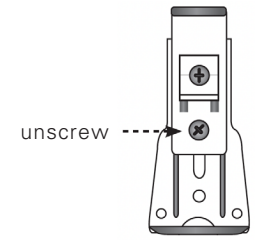

Figure 8
**1:** For ceiling mount, the same bracket can be used by removing the adjustable plate from the wall bracket. To remove this plate, unscrew the silver screw holding the two parts of the bracket together. [Figure 8]